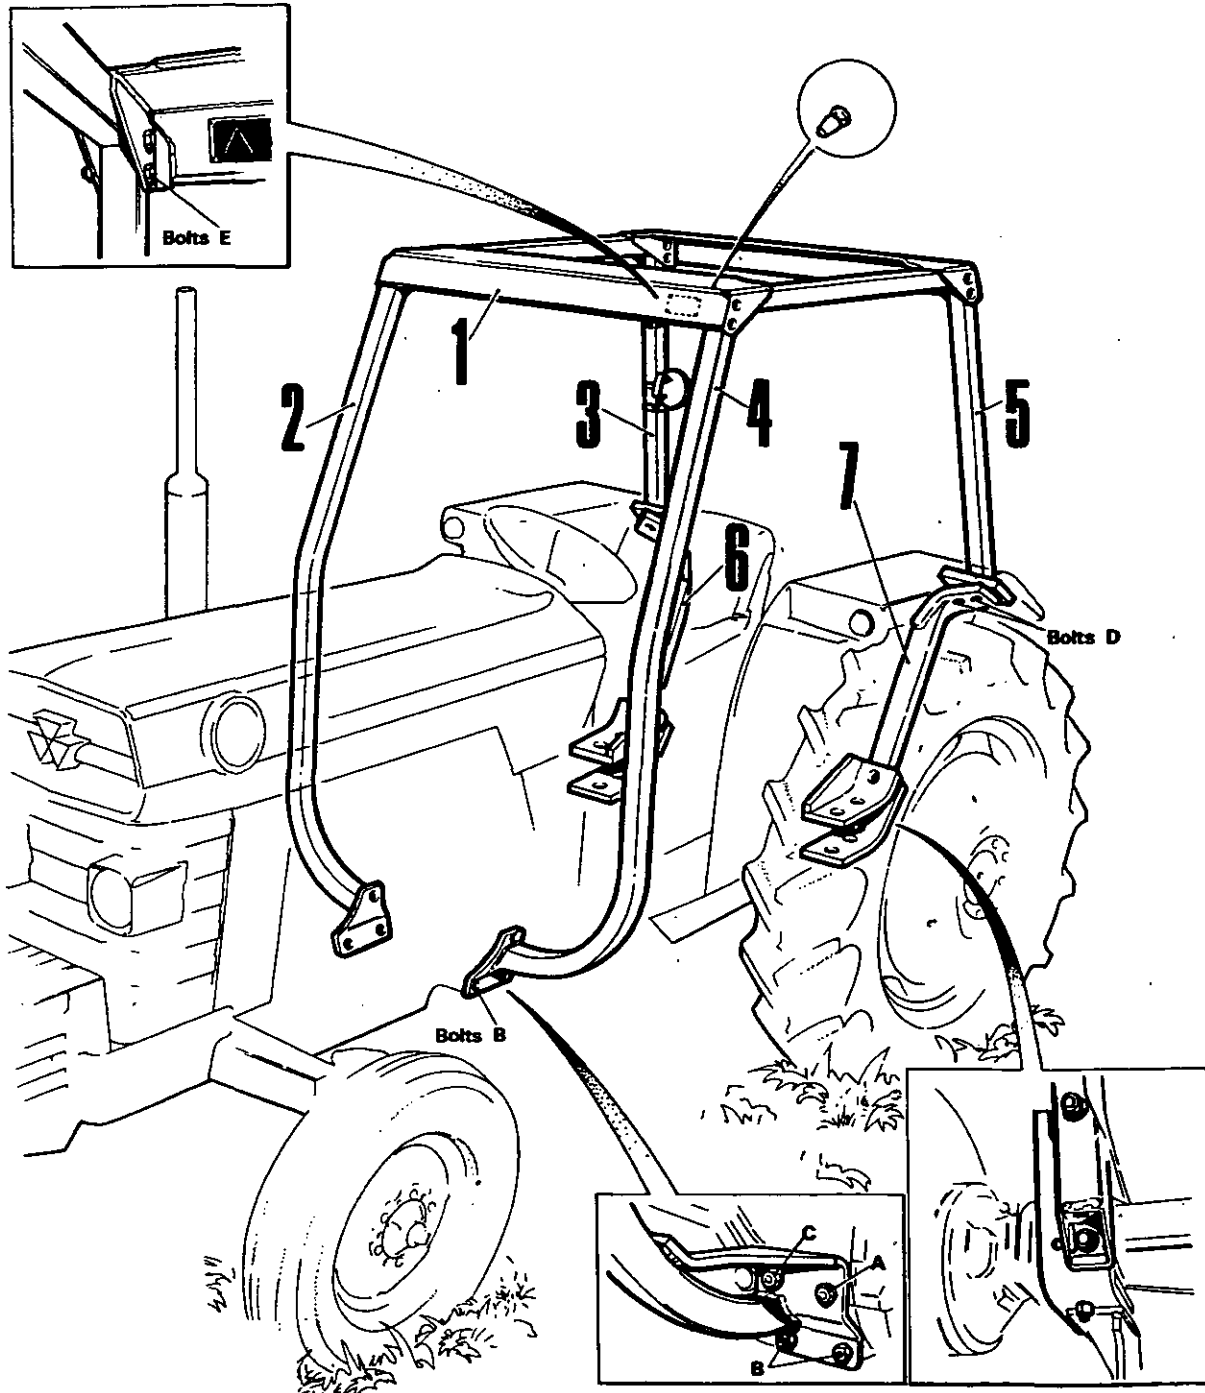

FIG. 1
#### New Tractors Fig. 1
#### Assembly Method (Figs. 1 and 2)
4. Attach each front strut (2 & 4 Fig. 1) to the transmission housing using three  $\frac{3}{8}$  UNC x 44,5 mm (1 $\frac{3}{8}$  in) bolts and  $\frac{3}{8}$  lockwashers.